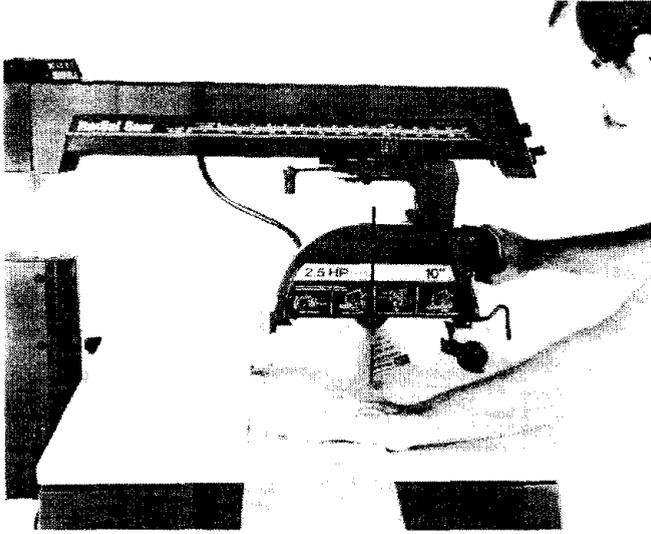

Fig. 96 - Distance Needed to Complete Crosscut
13. Pull blade through fence and workpiece just enough to complete the cut. Fig. 96.